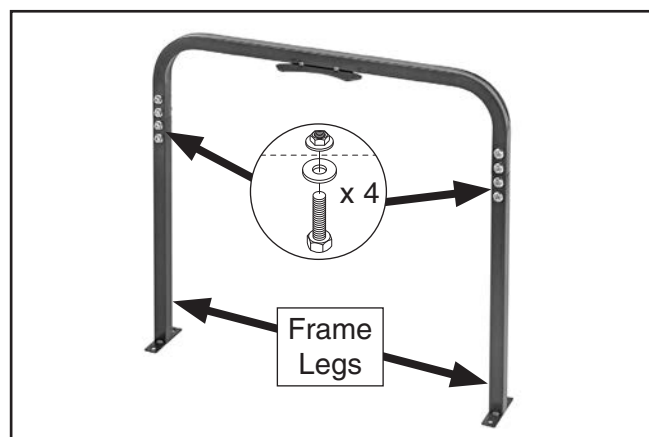

Figure 9. Frame legs attached to frame arch.
9. Attach (2) frame legs to frame arch (see **Figure 9**) with (4) $\frac{5}{16}$ "-18 x $1\frac{1}{4}$ " hex bolts, $\frac{5}{16}$ " flat washers, and $\frac{5}{16}$ "-18 flange nuts. Only hand-tighten for now.